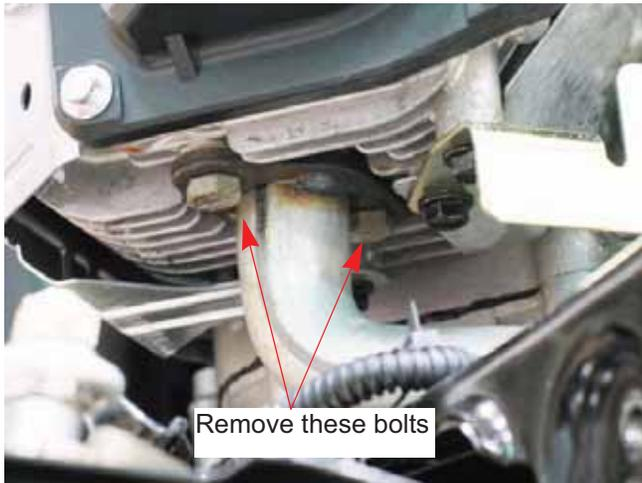

Figure 2.7
2. Remove the mounting bolts using a 1/2" wrench. See Figure 2.7.